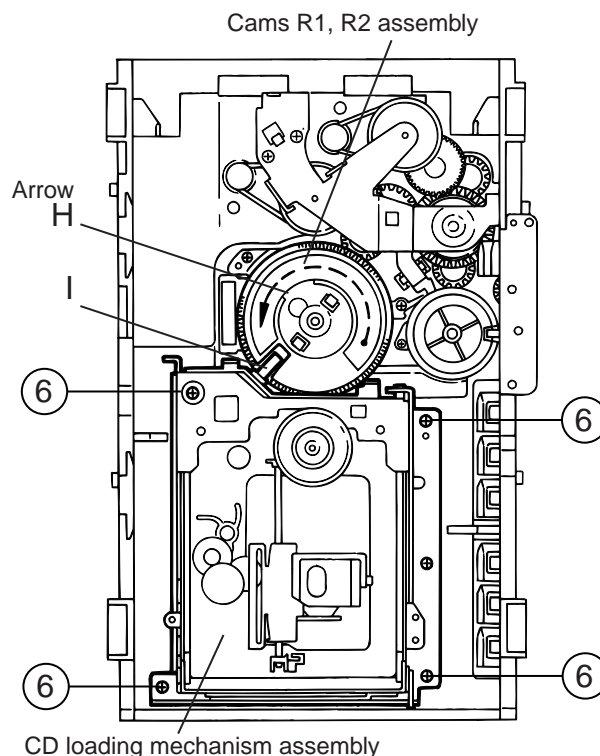

Fig.10
■ Removing the CD loading mechanism assembly (See Fig.10)
1. While turning the cams R1 and R2 assembly in the arrow direction "H", align the shaft "I" of the CD loading mechanism assembly to the position shown in Fig.10.
2. Fig.10.